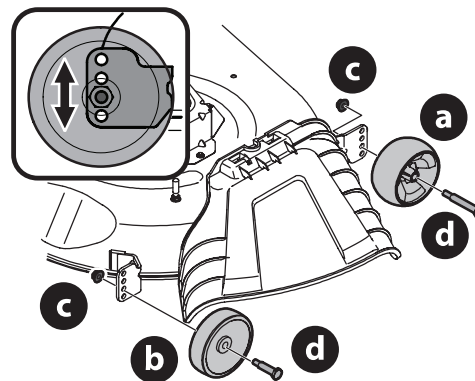

Figure 9
- b. Remove the front (a) and rear (b) deck wheels by removing the flange lock nuts (c) and shoulder bolts (d) that secure them to the deck (Figure 9).